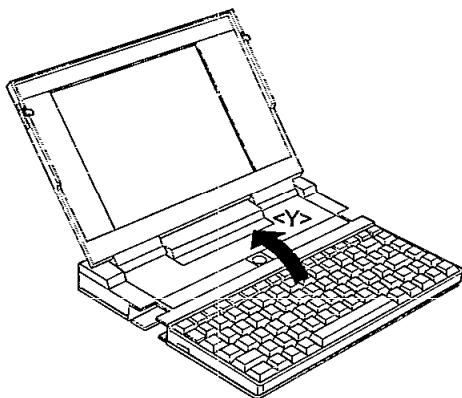

Figure 14
- (3) Raise the keyboard in the direction of arrow <Y> as shown in Figure 14.
- (4) Detach the keyboard flat cable from CN2.